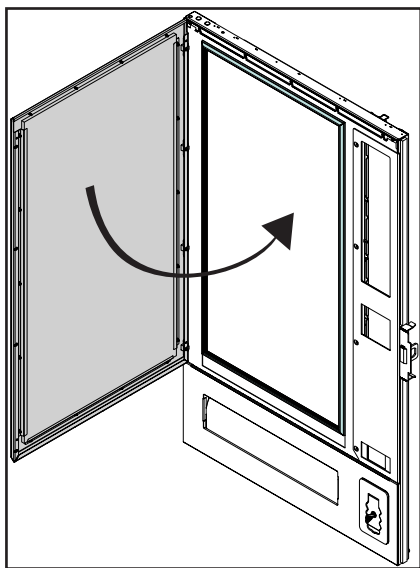

Figure 31
1. Close the impact protection (Fig. 31).